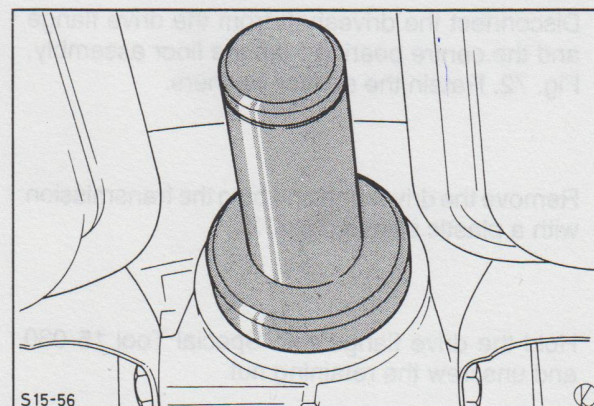

Fig. 76. Fit pinion oil seal.
7. Fit the new oil seal using Special Tool 15-047A, Fig. 76.